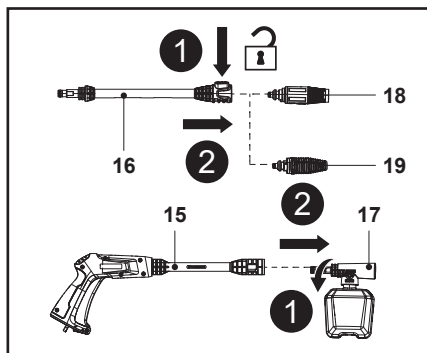

Fig. 13
1. Disconnect the nozzle (18 / 19) from the extension lance (16) or disconnect the detergent bottle nozzle (17) from the spray gun (15) (Fig. 13).